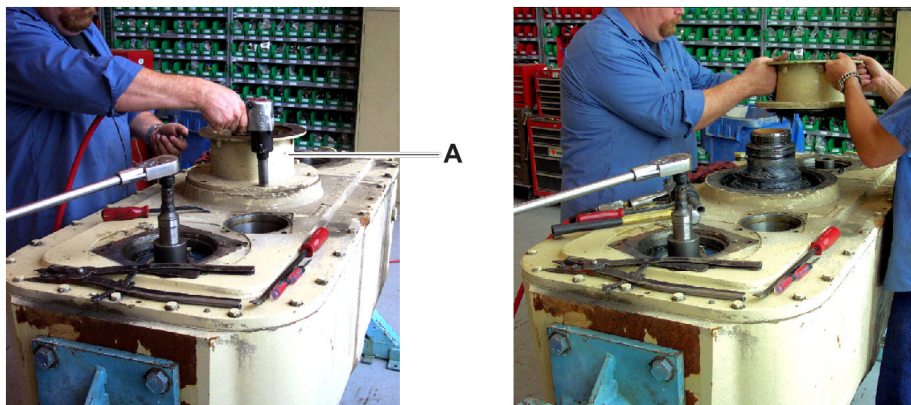

Figure 7
7. Remove the swivel housing (Figure 7, item A) from the rotary head cover.